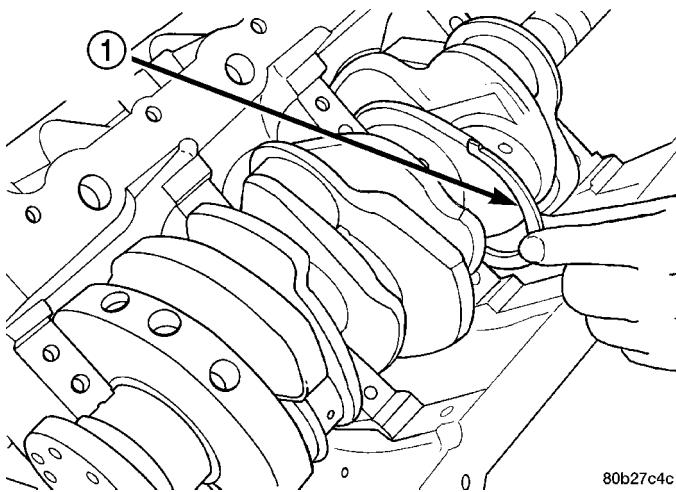

Fig. 64 Thrust Washer Installation
(3) Move crankshaft forward to limit of travel. Lubricate and install the front thrust washer by rolling the washer onto the machined shelf between the No. 2 upper main bulk head and crankshaft thrust surface (Fig. 64).
(4) Move crankshaft rearward to limit of travel. Lubricate and install the rear thrust washer by rolling the washer onto the machined shelf between the No. 2 upper main bulk head and crankshaft thrust surface.